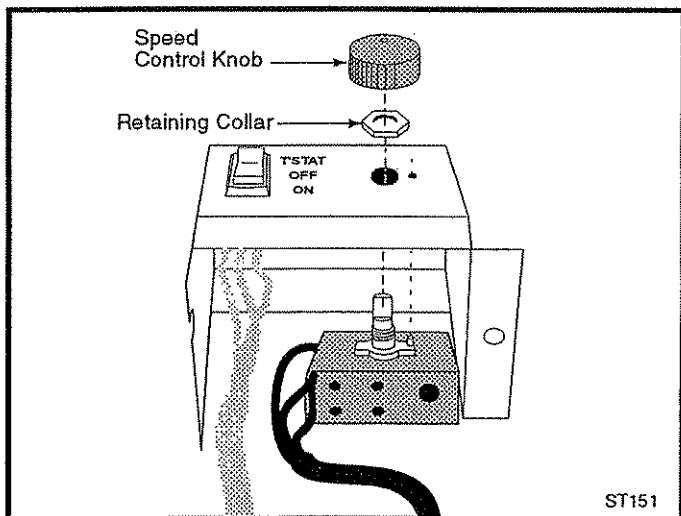

Fig. 22 Install the rheostat into the switchbox.
- 6. Install the rheostat into the switchbox.** (Fig. 22)